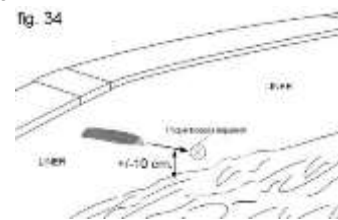

fig. 34
1) Once the water is at +/- 10 cm., fig. 34, below the lower edge of the valve, mark the hole in the liner with a felt pen and with a sharp blade, cut the liner carefully into a cross-shape from the inner wall of the pool towards the outer wall, without going past the punched hole.